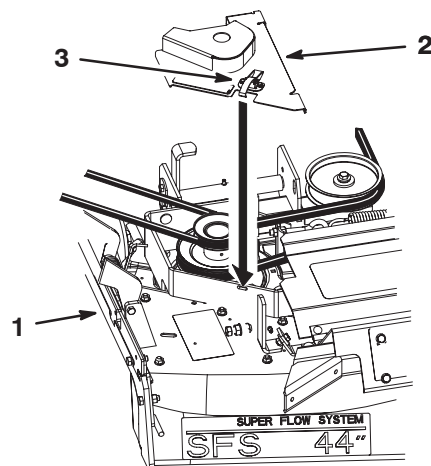

Figure 20
13. Install the belt cover over the pulley assembly and secure the 3 cover latches into the blower (Fig. 20).
14. For 44 inch (112 cm) mowers, install the new belt cover over the pulley assembly and secure the latch (Fig. 20).